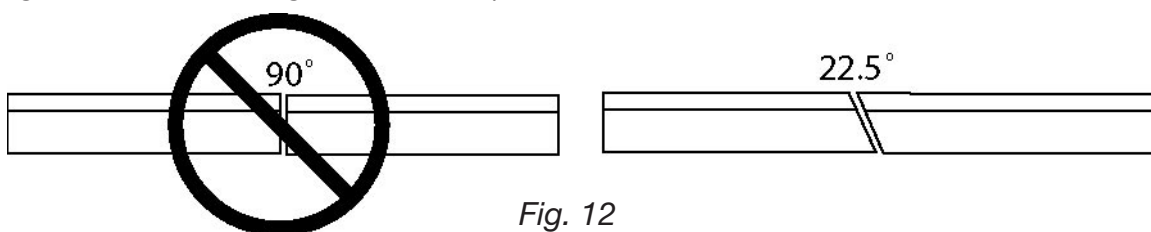

Fig. 12
- To seam together long, continuous pieces, first attempt to match the wood grain of the two pieces at the seam. Next, select the least obtrusive location to position the seam above the long, straight section (For example, above the partitions separating two sections is a less obtrusive position than in the center of a double-hang section or center of a long wall.) NEVER seam crown molding, butting two 90° cross cuts. Always seam to molding pieces using two 22.5° angle cuts, as in the overhead view Fig. 12. (This is the smallest angle, which has the greatest stability and creates the least waste material.)